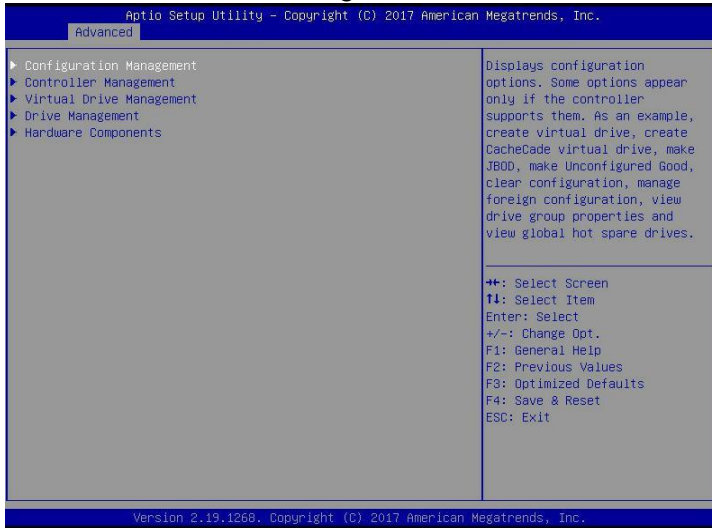

Figure 6-101
- b) As shown in Figure 6-101, select Configuration Management on the RAID card configuration interface, and press Enter.
✧ Figure 6-101 RAID card configuration interface